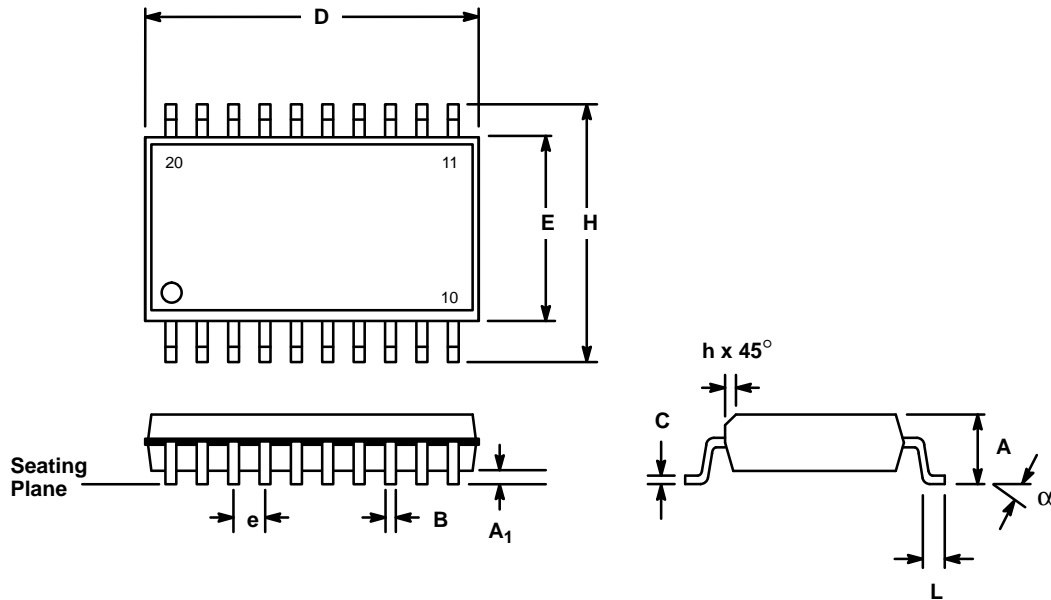

**Figure 1. Typical Interface with an 8-bit Data Bus**
- The timing diagrams for updating the DAC register are shown in Figures 1 and 2.